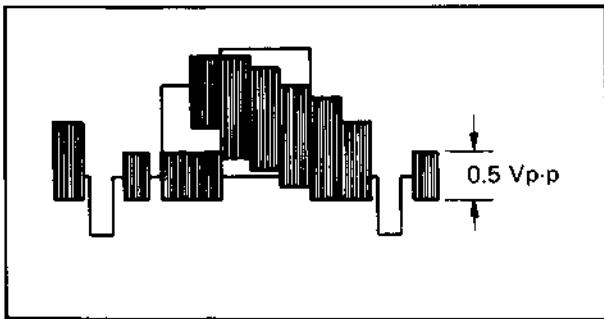

Fig. 6-38 Playback color output level adjustment
3. Adjust R215 (COLOR LEVEL) so that the level of color burst signal is 0.5 Vp-p as shown in Fig. 6-38.